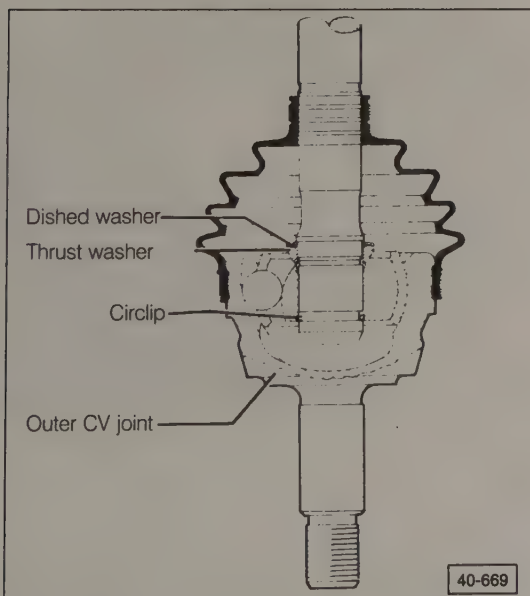

Fig. 5-6. Cutaway view of outer CV joint, showing positions of circlip and washers.
3. When installing the joint, use a new circlip in the groove at the end of the axle shaft. See Fig. 5-6. Drive the joint onto the shaft until the circlip is seated. Fold the boot back over the joint, using a new clamp to hold it.